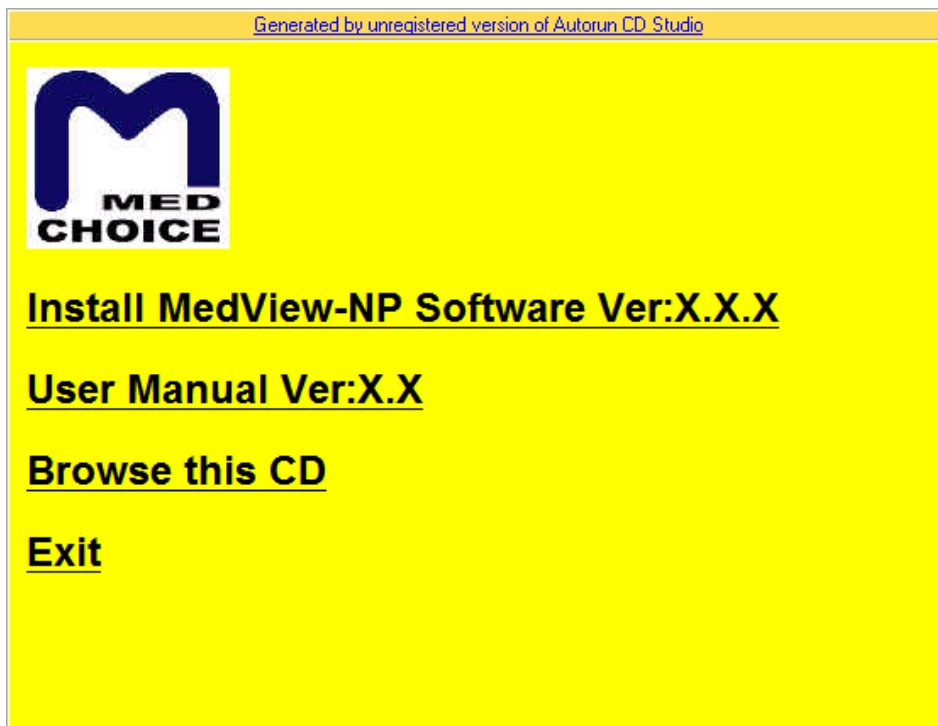
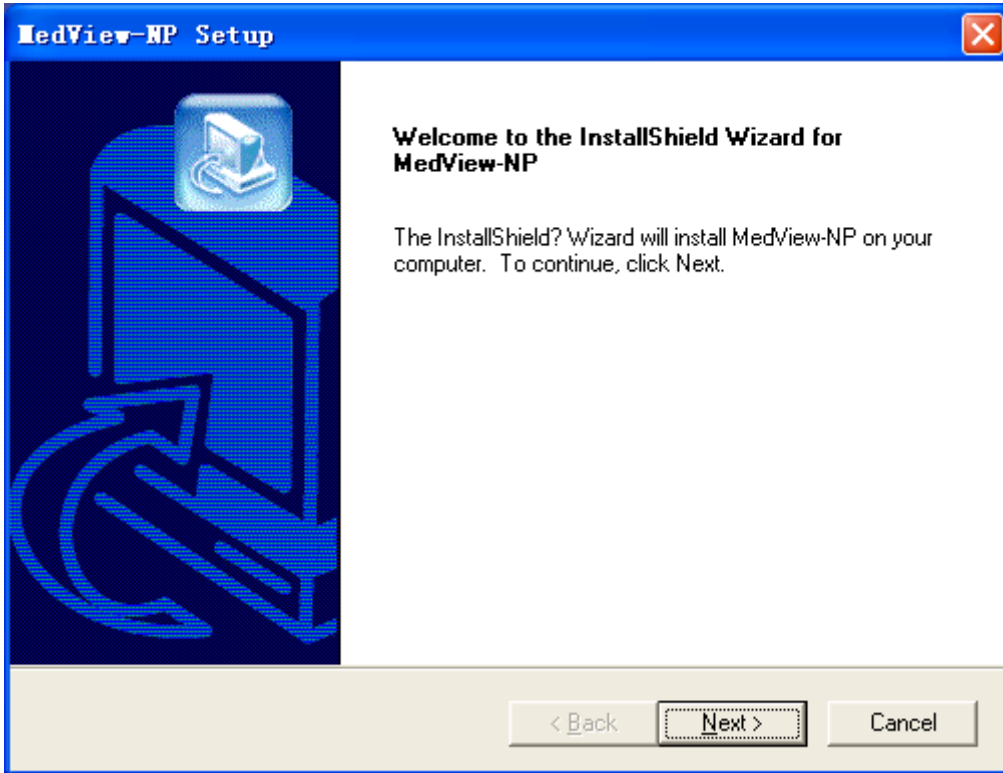

Figure 2-1
Figure 2-2 Click "Next" button
2.1 Put the attached installation CD into computer's CD driver, the CD will run automatically and then the following interface will appear, as shown in Figure 2-1.
(1) Click "Install MedView-NP Software Ver:X.X" in Figure.2-1 to begin the installshield wizard of MedView-NP Software. Then Figure 2-2 will appear.